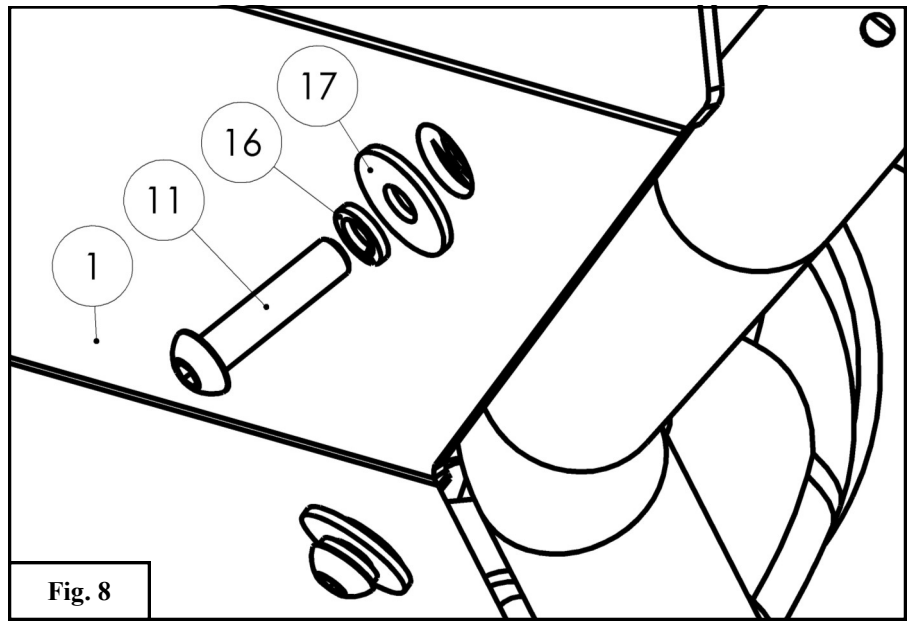

Fig. 8
6. Mount lower skid plate (1) according to **Figures 8 & 9** using the supplied M8 hardware (11, 16, and 17) on each U-clip.